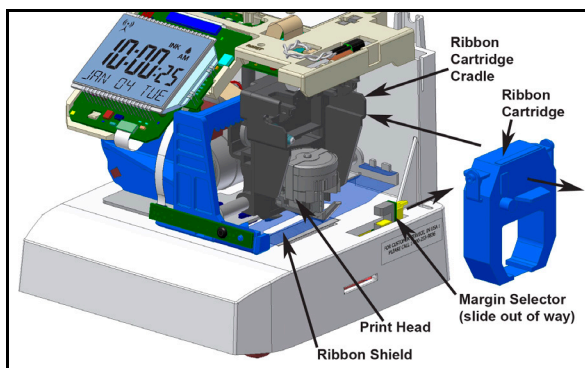

Figure 3: Ribbon Cartridge Cradle Location.
The Amano TCX-85 clock in Figure 3 shows a typical layout with the ribbon cartridge removed from the cradle.
Step 2. Pull the ribbon cassette out of the cradle (see Figure 3 on page 2-3).
Step 5. To reset the INK indicator, press and hold the **ENTER** button for three (3) seconds.
Note – If the print mechanism is down (a piece of paper could not be inserted), press the **RESET** button to move the carriage to the up position. This will make the ribbon cartridge installation easier. **The Margin Selector (see Figure 3 above) can be moved toward the rear of the clock to provide more clearance for ribbon replacement.**